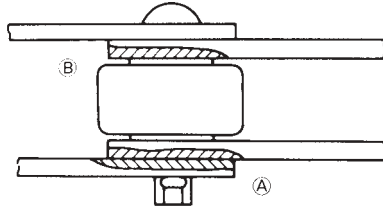

Figure 15-3: Link Plate Wear
Reciprocal friction between the inner and outer link plates and contact between the side surface of the roller and the inside surface of the link plate causes wear such as (A) and (B) shown in Figure 15-3.